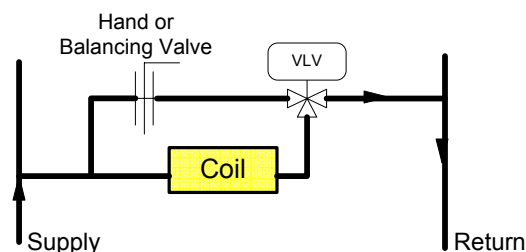

Figure: 3
2. Review the type of valves. Three-way control valves may be converted to two way (see Figure 3). The existing 3 way valves – ideally should be equal percentage, and be able to control with the added pressure they will experience. If in doubt, 2-way valves may need to be installed.